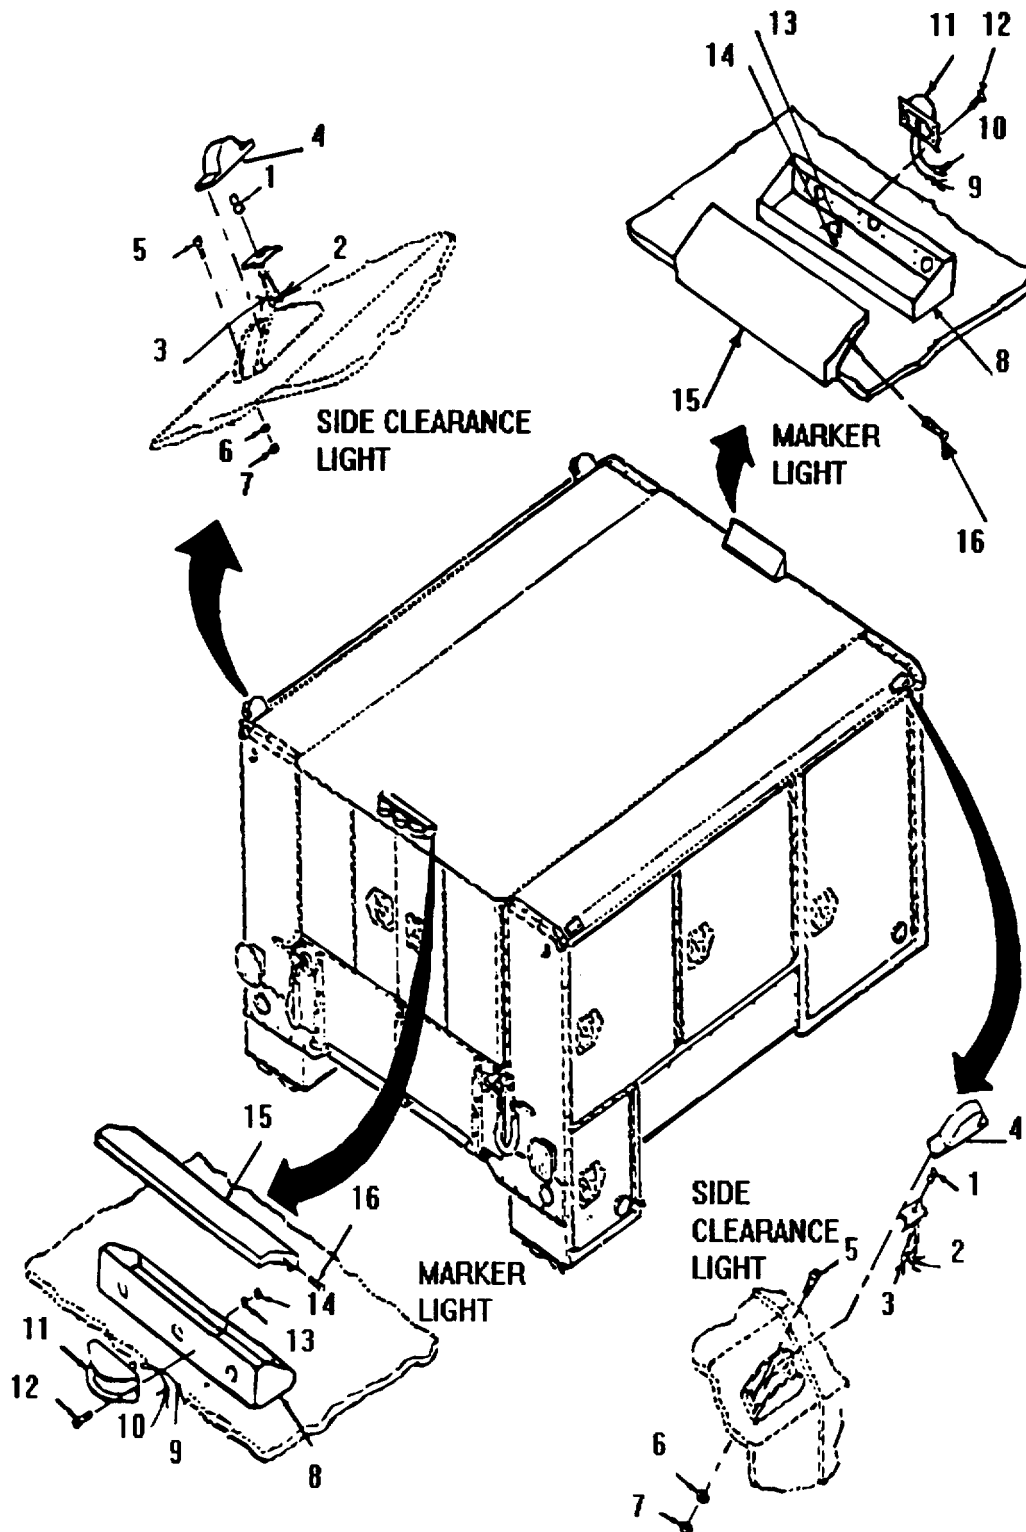

Figure 3-7. Clearance Lights, Installation.
- (6) Remove one lamp base terminal (10) from either curb or street side DC wiring harness. Remove one terminal (11) from lighting fixture (9). Remove incandescent lamp (1) from lamp.
- (7) Remove lamp base from lighting fixture (9).
**d. Installation. (Refer to Figure 3-7)**